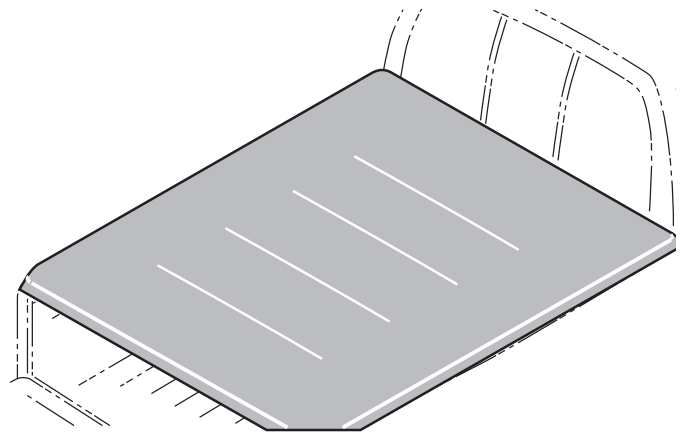

Figure 7
2. With the tailgate open, completely unfold the tonneau cover (fig. 7).